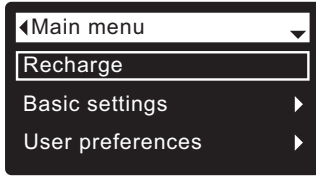

FIG. 35
During normal operation (status screens rolling), press the filter’s SELECT (O) button to display the Main menu (See Figure 35). This menu and its subsidiary screens are used to control these operations: